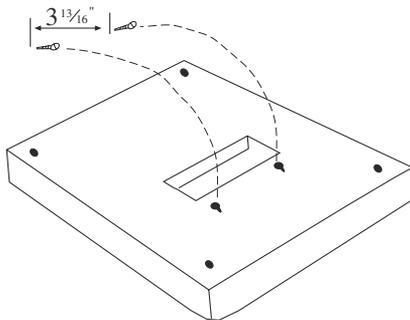

Figure 1: Wall mount
**Wall Mount:** The Model 1100 can also be mounted on a wall with 2 screws using the keyholes on the back panel of the unit. Place 2 screws or bolts  $3 \frac{13}{16}$  apart at the desired height from the floor. Hook the unit on the screws and slide it towards the floor. See figure 1: